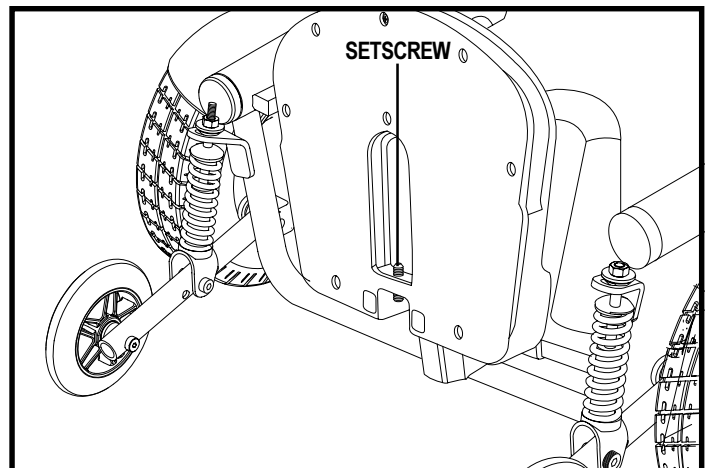

Figure 17. Bottom View of Foot Platform
1. Flip up the foot platform and locate the setscrew. See figure 17.